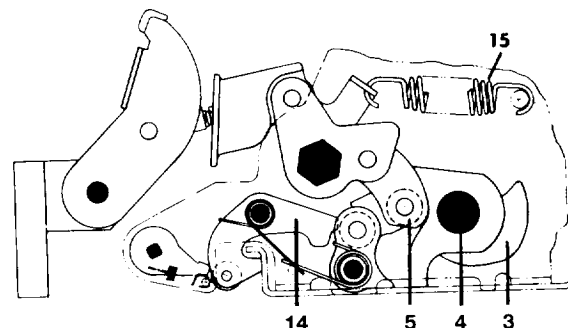

FIG. 10C RESET
**Reset Position** — The mechanism is shown in Fig. 10C. The closing cam, item no. 3, which is assembled to the cam shaft, item no. 4, is rotated by the charging motor, manual operating handle, or maintenance handle. The cam engages the cam roller and partially extends the toggle linkage. This allows the secondary latch item 14 to pivot against the front frame as shown leaving a gap between the trip latch and secondary latch roller. The secondary latch is now in a position to engage with both the trip latch and cam roller.